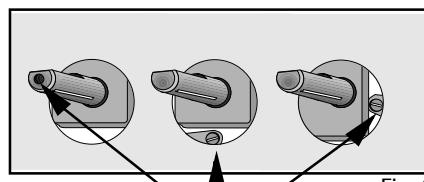

Fig. 2
- With a thin screwdriver, adjust the by-pass screw positioned in the centre of the gas tap control shaft (see Fig. 2). If changing from natural gas 20 mbar and 13 mbar to liquid gas, completely tighten the adjustment screw in. If changing from liquid gas to natural gas 20 mbar, undo the by-pass screw about 1/4 of a turn. If changing from natural gas 20 mbar to natural gas 13 mbar undo the by-pass screw about 1/4 of a turn. If changing from liquid gas to natural gas 13 mbar, undo the by-pass screw about 3/4 of a turn.